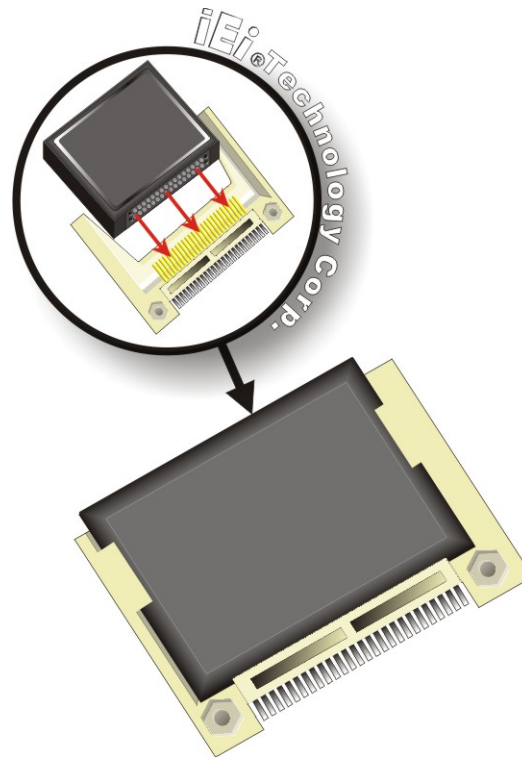

Figure 5-2: CF Card Installation
Step 3: Insert the CF card. Gently insert the CF card into the socket making sure the socket pins are properly inserted into the socket. See **Figure 5-2**.